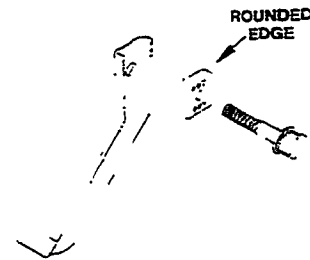

Figure 29
- **Note:** The blade plates must be assembled with the rounded edges facing into the blade and the word "out" facing away from the blade (Figure 29).